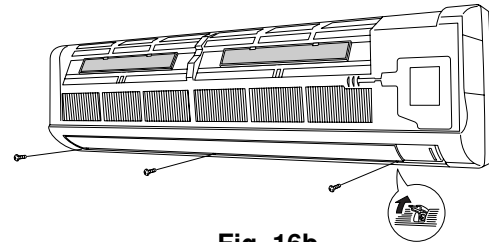
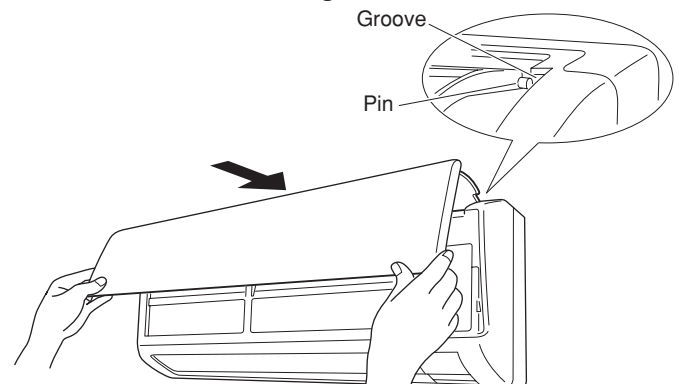

Fig. 16b
Fig. 19a
- (2) Remove the 3 screws. (Fig. 16b)
- (5) Affix the grille with the 3 previously removed screws. (Fig. 16b)
- (6) Install the air intake grille.
- (a) Allow the edge of the air intake grille to slide into the top of the indoor unit, and then insert it all the way inside. (Fig. 19a)